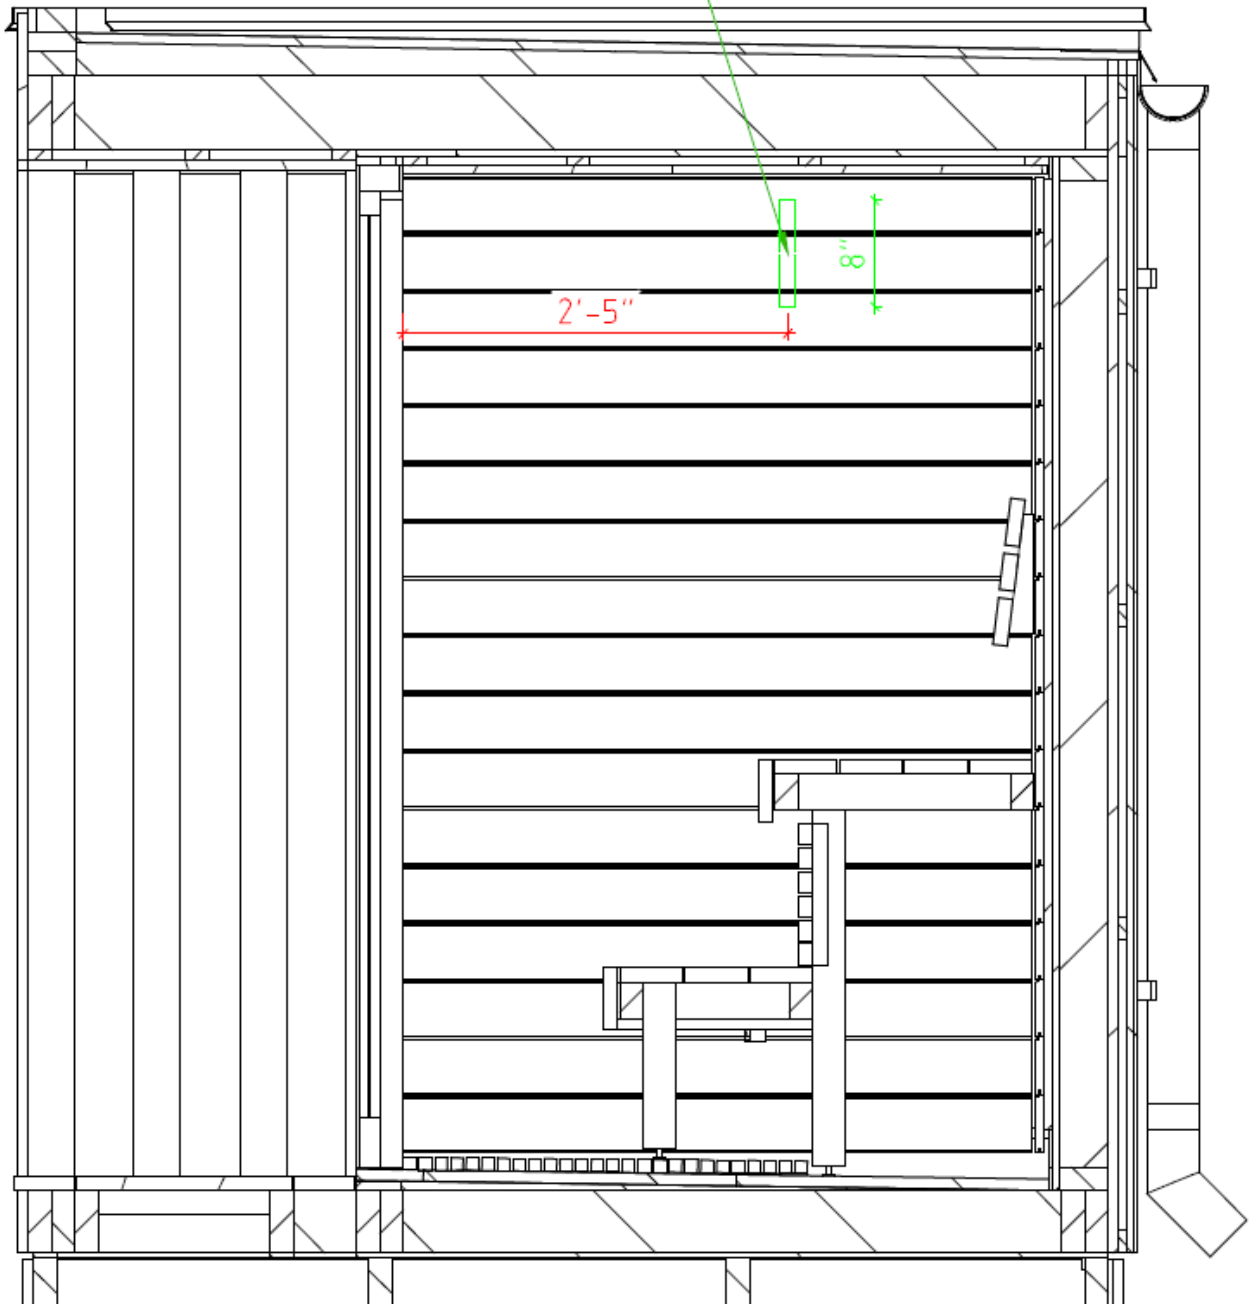

Figure 5.
11. Inside the wall is rigid pipe, which leads to the 120 VAC electrical box. To install temperature sensor, hole needs to be drilled through heater side of the wall. Drilled hole must be at least 2 inches deep, but not more than 3 inches. Location of the hole is shown on the **Figure 5**. Measurement must be taken from the window frame and the ceiling. After the hole is drilled, suitable cable must be pulled through hole and pipe. Follow heater manufacture installation manuals